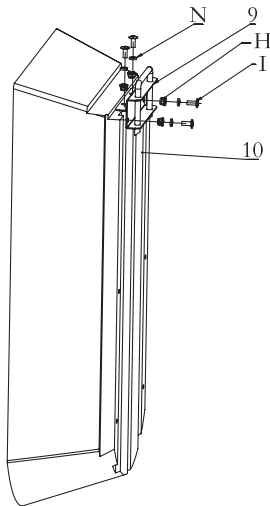

Fig.5
1. Align the 4 holes on buckle (9) with the holes on tray (10), use 4pcs M8x20 bolt (I) and 4pcs $\Phi 8$ washer (N) and 4 pcs M8 nut(H) to tighten them each, note the washer (N) need to be placed inside of the tray. See fig. 5.